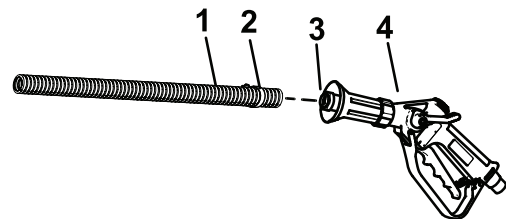

Figure 41
2. Connect the free end of the long hose to the fitting on the spray gun (Figure 41).